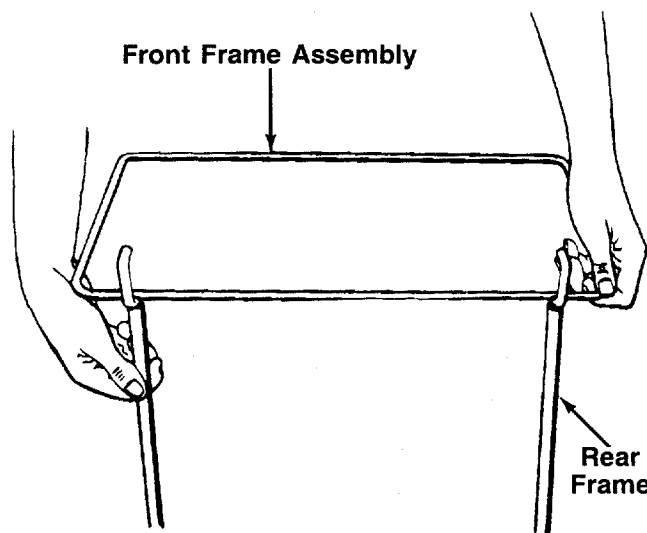

FIGURE 15.
1. Join the rear frame and front frame assembly as shown in figure 15.